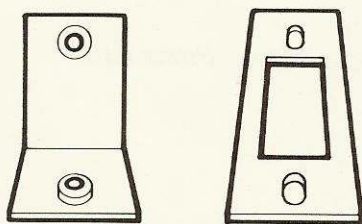

Fig. 4]] Plus L-bracket, screws and backplate
| Figure 4 | L-Bracket, Anchor Screws and Backplate 1 - 5 |
- * An Apple] [Plus L-bracket, two long anchor screws, and a cable clamp backplate, depicted in Figure 4.